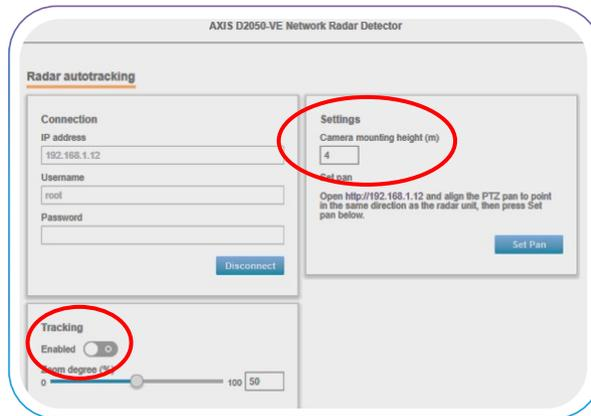

Figure 25. Radar Auto-Tracking
- The Radar Auto-Tracking setup page displays (Figure 25).